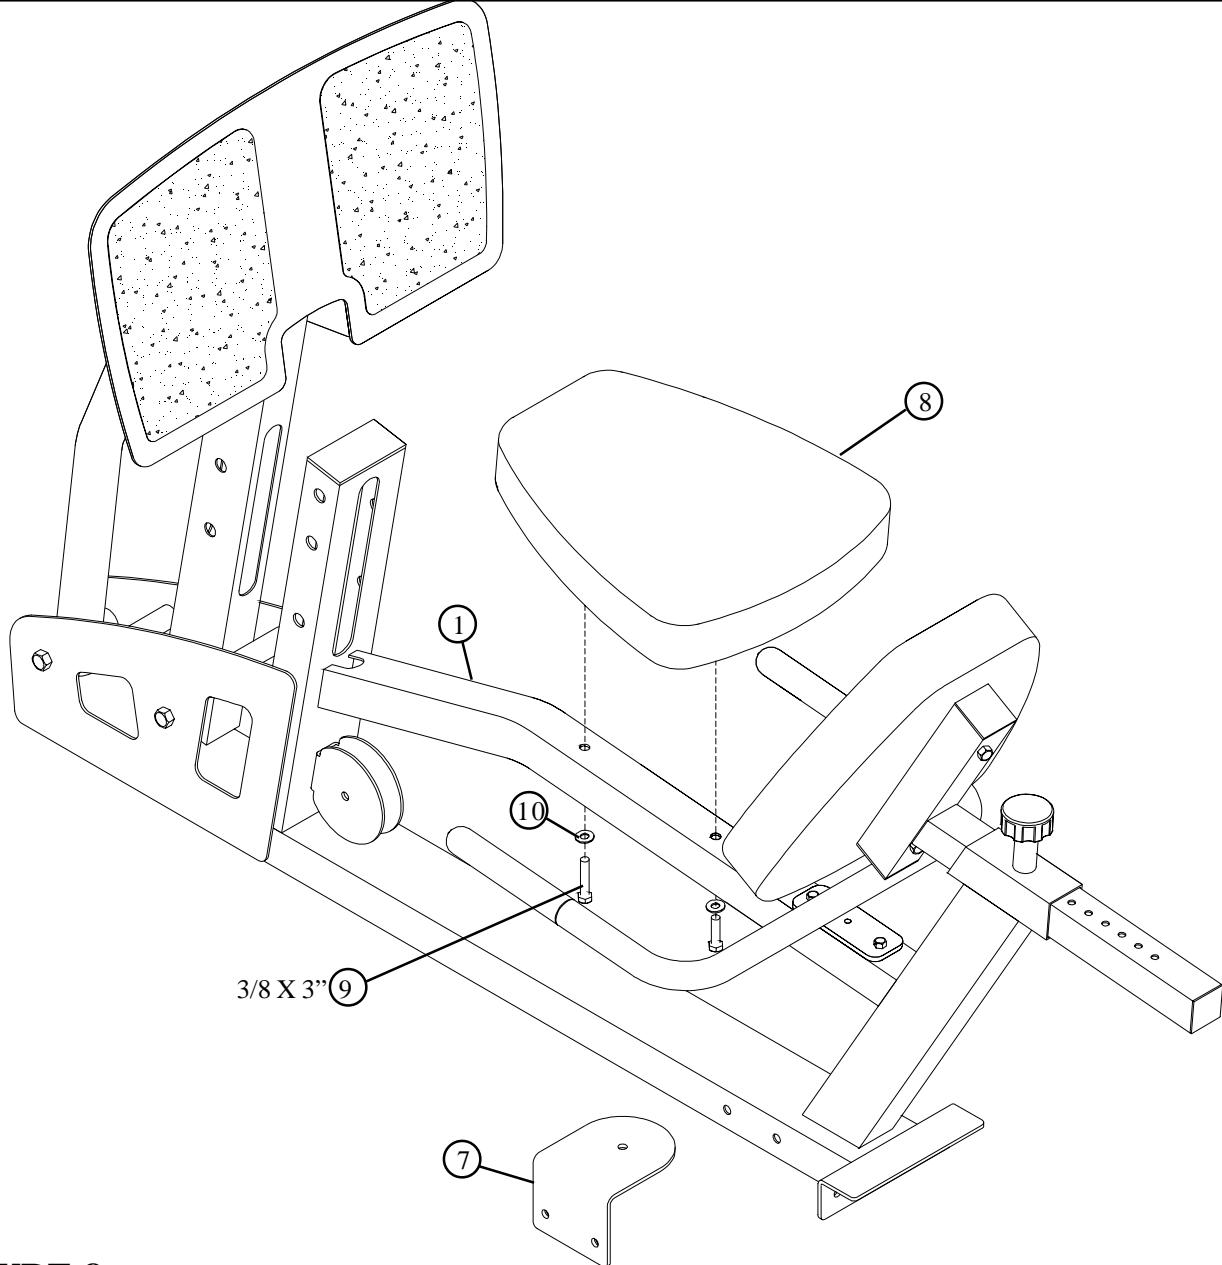

**FIGURE 7**
- **SECURELY** assemble one PAD (8) to the SEAT ADJUST (2) using two 3/8 X 3" BOLTS (9) and two 3/8" FLAT WASHERS (10) as shown in FIGURE 7.